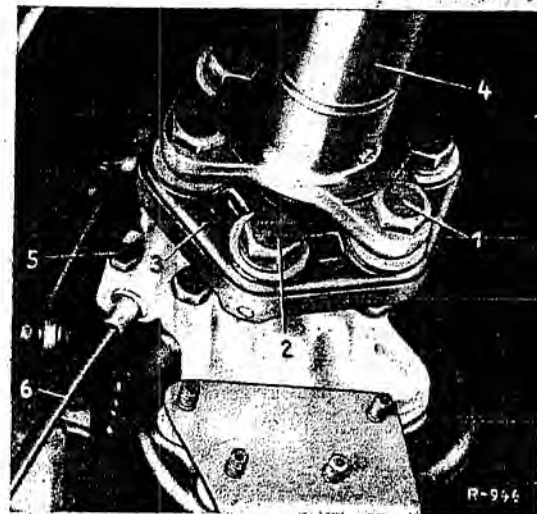

Fig. 41-1/2
- 16 Hexagon screws for fastening the support (12) to the chassis base panel
- 21 Hexagon screws for the exhaust pipe support bracket (23)
2. Unscrew the castle nuts or self-locking nuts of the fitted screws (1) and (2) from the three-way flange of the transmission and from the shaft plate (3). Remove the screws together with the washers (Fig. 41-1/2).
3. After tapping up the locking plates (2), unscrew the hexagon nuts (3) of the four cheese head screws (1) which fasten the rear propeller shaft to the joint flange of the rear axle and remove the screws (Fig. 41-1/3).